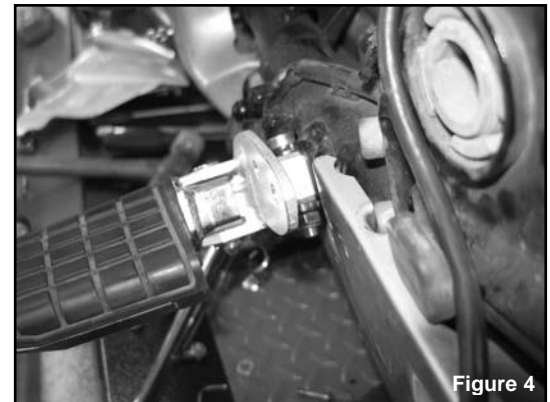
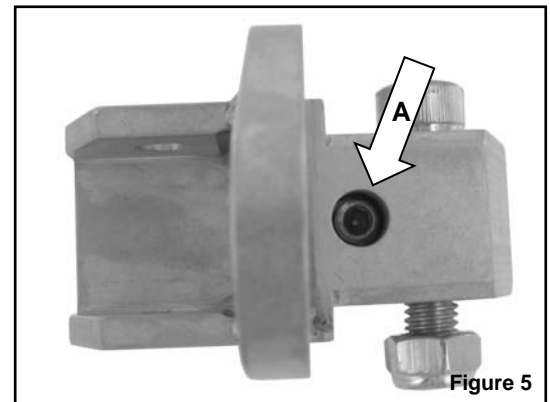
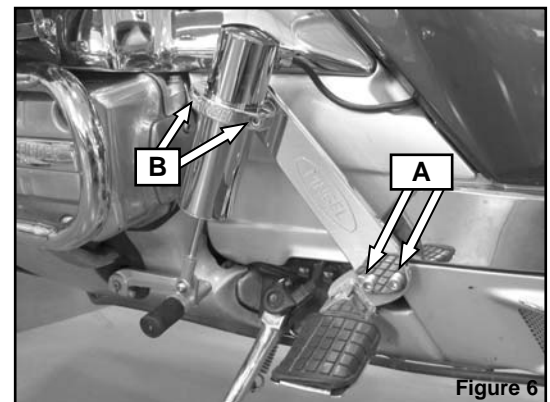
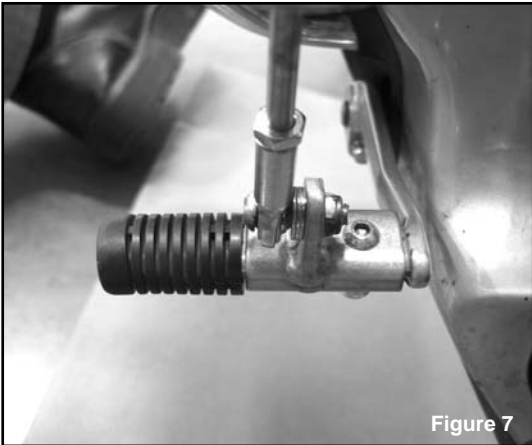

Figure 4
Figure 5
Figure 6
Figure 7
Remove the left side foot peg by removing the cotter pin, washer and retaining pin. Install the Pingel foot peg extension bracket by inserting it into the opening where the stock foot peg was located. Install the supplied 8mm x 45mm socket head cap screw through the bracket and loosely install the 8mm locknut, do not tighten, see figure 4. Remove the 1/4-20 x 1/2" set screw, (A) figure 5, and apply thread locker, then reinsert and tighten it. The 8mm bolt and locknut can now be securely tightened. Reinstall the stock foot peg into the Pingel foot peg extension using the original retaining pin, washer and cotter pin. Install the Pingel shift cylinder support bracket onto the Pingel footpeg extension bracket using the supplied 5/16-24 x 7/8" socket head cap screws with locknuts and tighten, see (A) figure 6.
Install the shift cylinder onto the shift cylinder support bracket using the Pingel clamp, see (B) figure 6, and the two supplied 1/4-20 x 3/4" socket head cap screws. Just snug these bolts for now, as adjustment will be needed later. The rod end on the shift cylinder should be able to go past the point of mounting in each direction sidewise. The point of mounting is that flat surface upon which the rod end bolts to the Pingel shift peg bracket allowing for the three thin flat 1/4" washers also. It is imperative that there is no side pressure or tension on the electric shift cylinder shaft when it meets its flat surface upon the Pingel shift peg bracket when it is bolted as this would take away valuable power from the electric shift cylinder resulting in binding and missed shifts. If the rod end does not line up correctly, you can either add another thin 1/4" flat washer to the existing washers to move the rod end away from the shift peg bracket, or remove one or more of the thin flat 1/4" washers to move the rod end closer to the shift peg bracket. Install the 1/4-28 x 1" button head socket cap screw through the rod end of the electric shift cylinder, the 1/4" flat washers and the Pingel shift peg bracket tab. Install the 1/4-20 locknut on the backside and tighten, see figure 7.